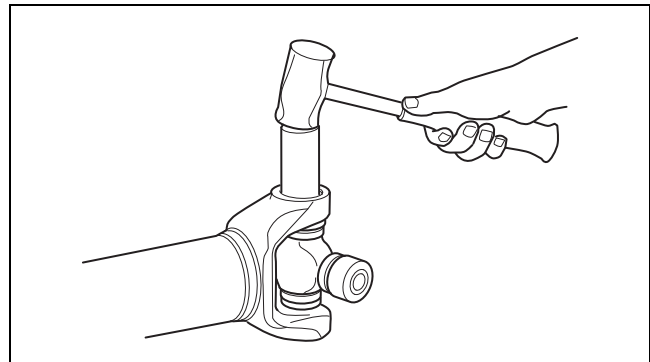

Figure 8.8
2. If necessary, use a brass drift and lightly tap the center of the bushing to assist in snap ring removal. Figure 8.8.